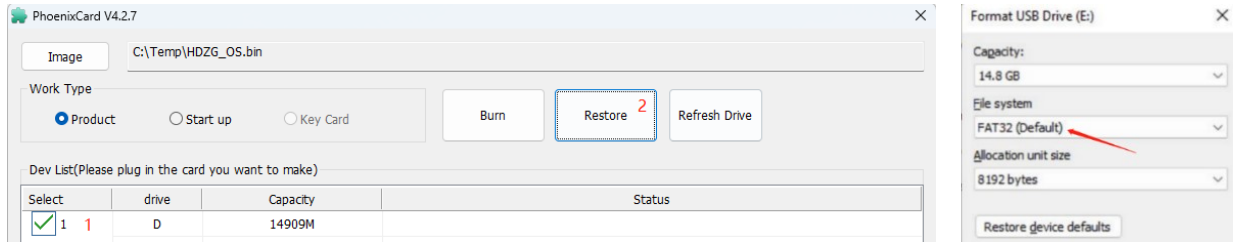

FIG 6. Restore a SD Card
5. Follow the FIG.6 to restore the SD Card from BOOT mode, and format it as FAT32 on Windows;